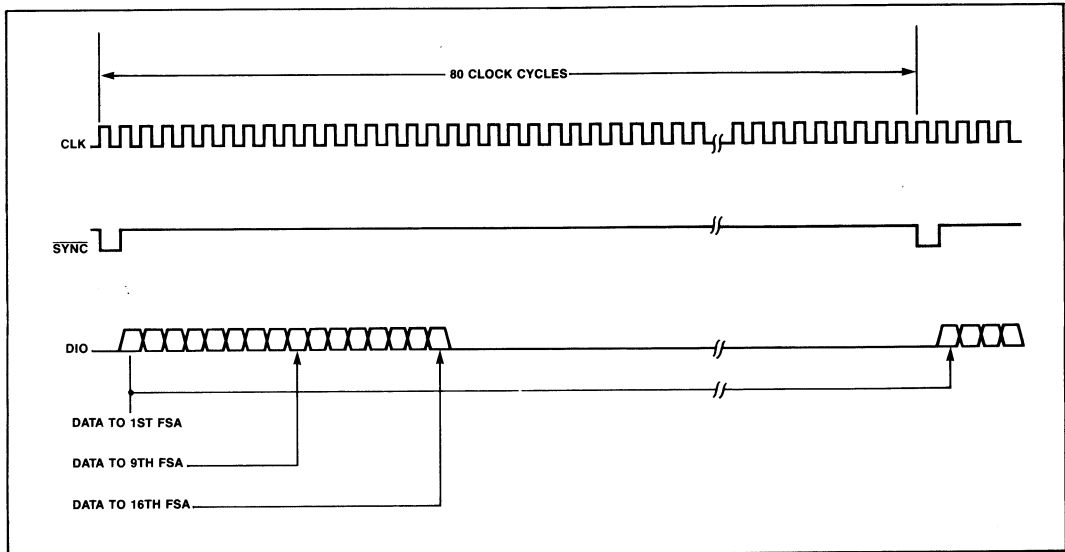

Figure 2. Data Sequences
**Data Sequences** — Bubble data shall be passed between the Controller and FSAs in the following fashion (see Figure 2).